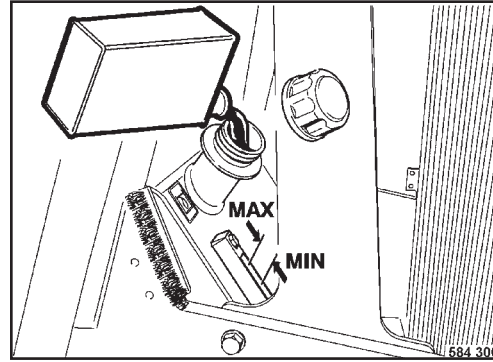

Fig. 99
- Check the hydraulic oil level in the inspection glass (Fig. 99).